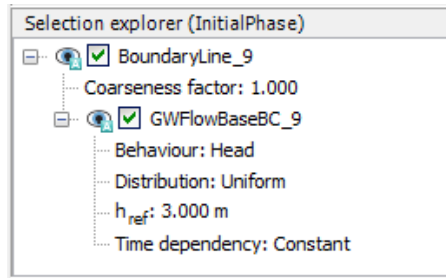

Figure 13–6: Initial phase with ground water flow base
- 5 In the **Selection explorer** in the **Behaviour** drop-down menu select the **Head** option and set h_{ref} to 3.0 as shown in Figure 13–6 \(p. 209\).